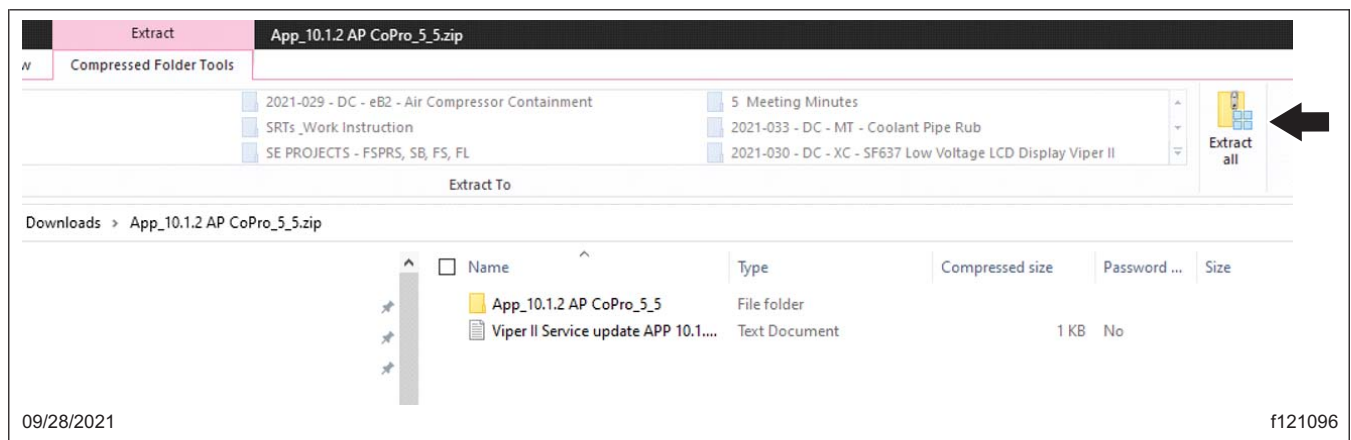

Fig. 6, Extract All Button
7. Select the 'Extract All' button. See **Fig. 6**.